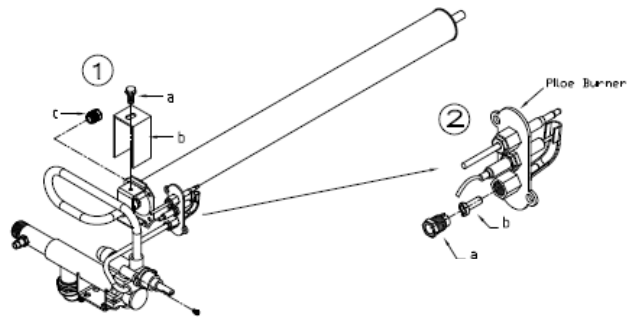

Fig. 7
- b. Remove and change the pilot nozzle (2b) according to Fig.7 and Table 7